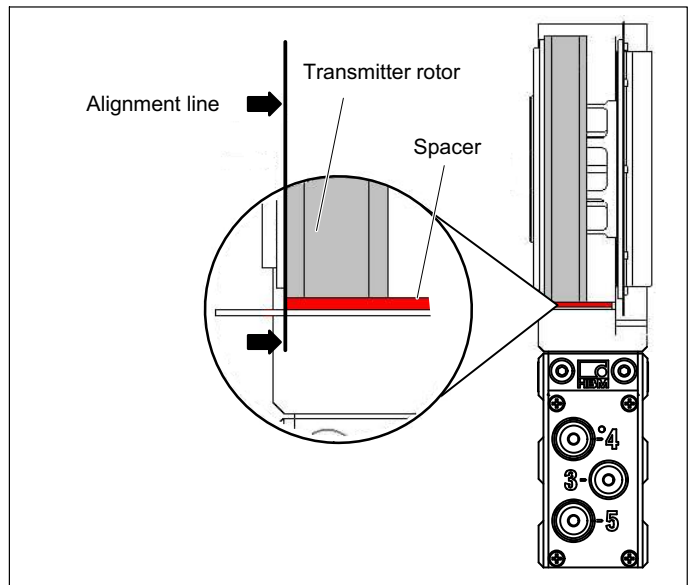

Fig. 8.16 Axial alignment to the rotor
5. Use the spacers to axially align the stator to the rotor. The rotor should be in line with the edge of the red spacer, see Fig. 8.16.